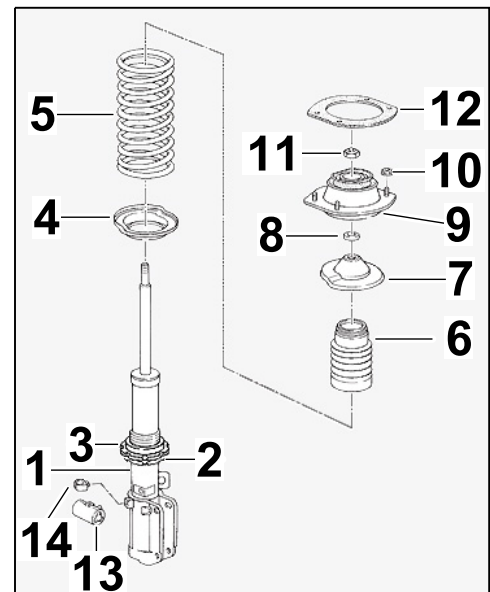

Figure 5
- 2.4 Disassemble faulty spring strut (⇒ Workshop Manual 4085 Disassembling front spring strut) and assemble new spring strut as shown in Figure 5 (⇒ *Figure 5*).